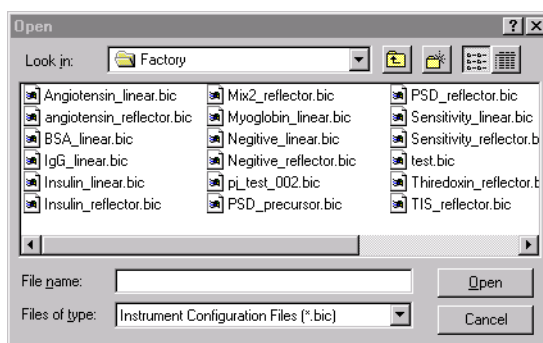

Figure 5-1 Open Dialog Box
1. Select **Open Instrument Settings** from the File menu. The Open dialog box is displayed (Figure 5-1).